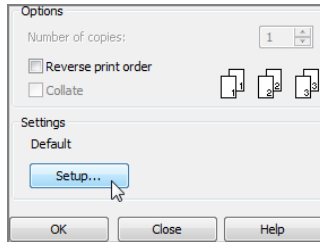

FIGURE 14.34: Clicking the Setup button
10. In the lower-right corner in the Settings area, click the Setup button, as shown in Figure 14.34.